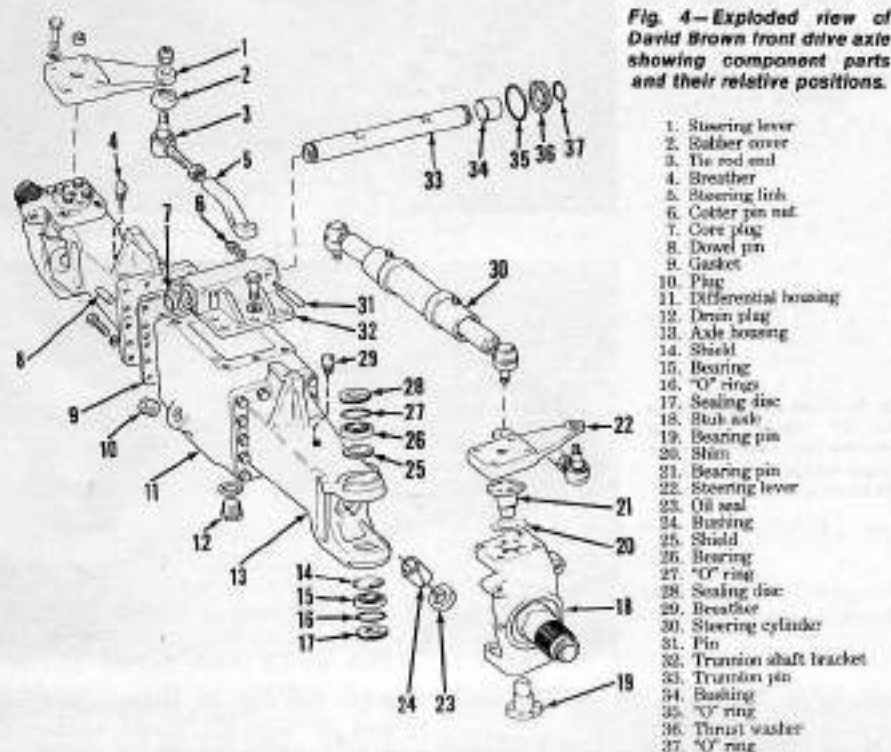
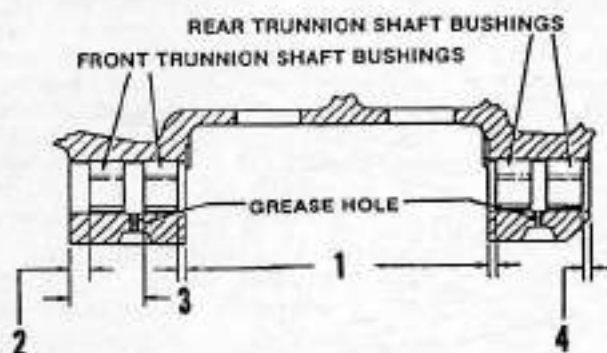

Fig. 4—Exploded view of David Brown front drive axle showing component parts and their relative positions.
Fig. 5—Diagram showing correct dimensions for the placement of trunnion shaft bushings for models equipped with David Brown front drive axles.
To remove assembly first disconnect all steering lines and cap openings. Loosen locknuts (6—Fig. 4) on trunnion shaft cotter pins (31) until they are even with threaded ends. Using care to avoid damaging threads drive cotter pins (31) through trunnion shaft. Remove locknuts and washers from cotter pins and remove pins (raise right-hand side of axle for more clearance). Support axle and remove core plug (7) from trunnion shaft bore with punch and hammer. Use slide hammer to pull trunnion shaft (33). Raise front of tractor enough to clear axle and remove axle. Remove thrust washer (36) and "O" rings (35 and 37).
11. Remove axle assembly as outlined in paragraph 9. Remove the four trunnion shaft bushings (34—Fig. 4) using a suitable puller. Install bushings making certain grease hole in bores are between the two bushings. Refer to Fig. 5 for correct bushing placement.